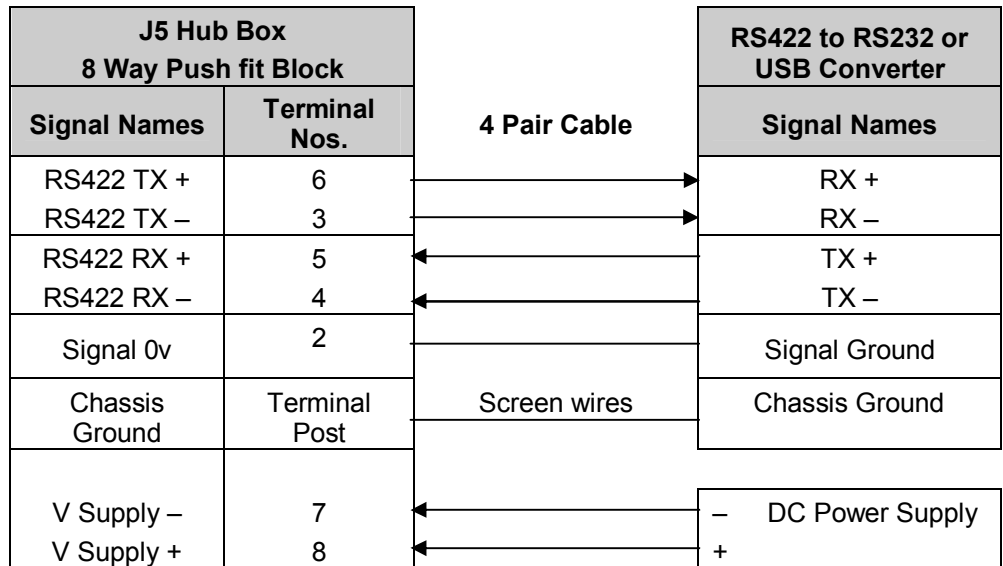

Figure 7 RS422 connections
- RS422                                      Figure 7